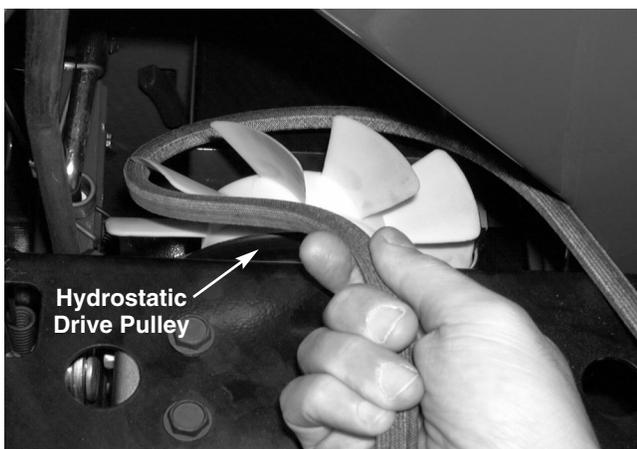

FIGURE 7.
14. Roll the "V" belt off of the hydrostatic drive pulley. See figure 7.